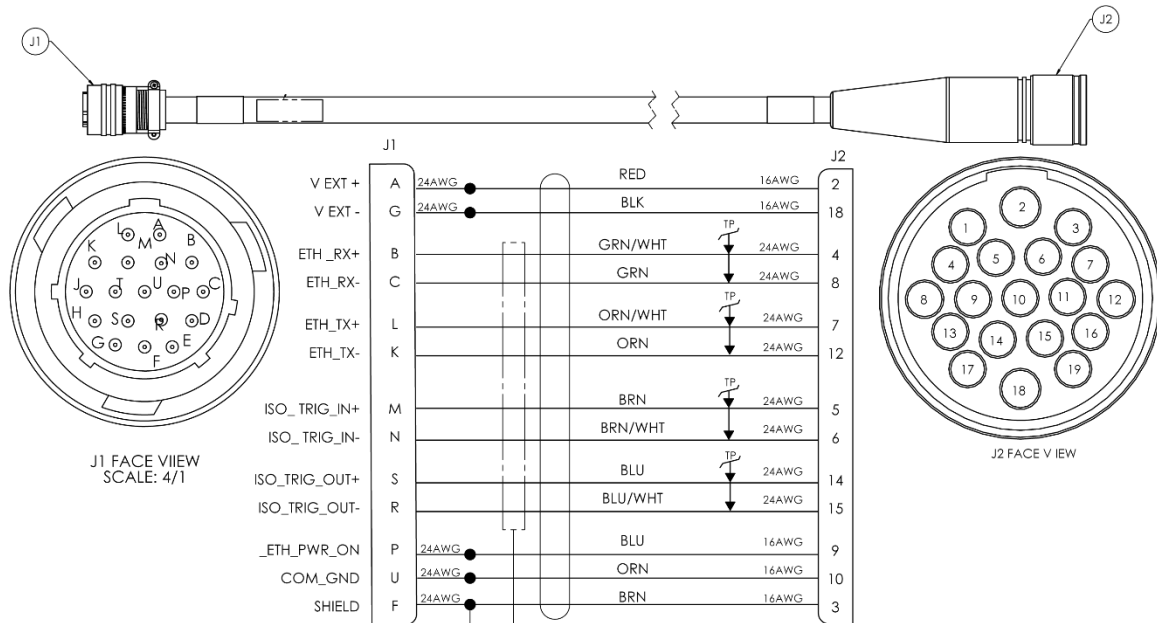

Figure 11. Power/Data/COM Cable, Deck Box, Ethernet 73B-6084-xxx
- 73B-6084-xxx Cable, Ethernet, Pinnacle (see Figure 11)